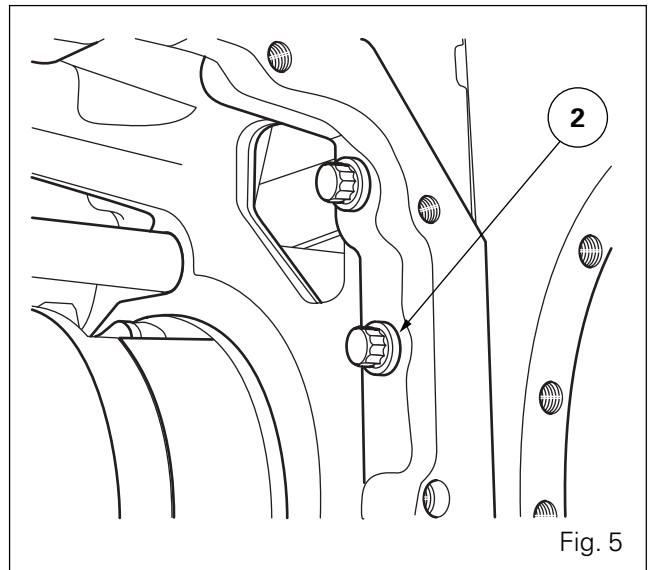

Fig. 5
- 23. Remove the right- and left-hand covers in order to access hidden screws (2) (Fig. 5) (see respective sections 9G01, 9G02 or 9H01).